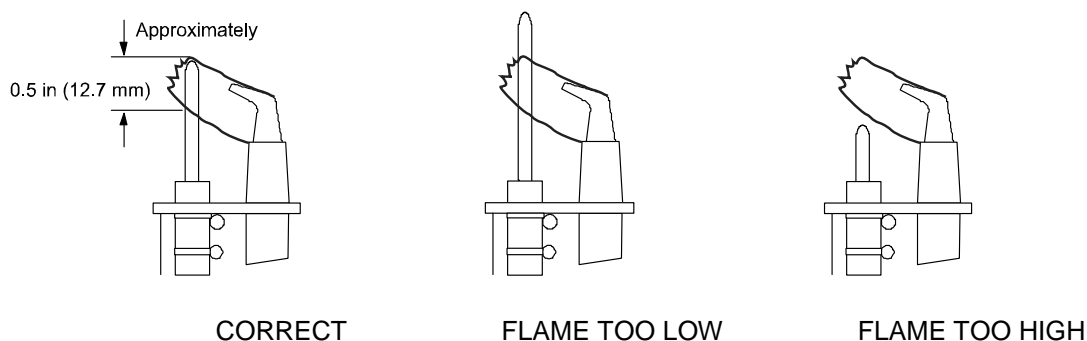

Figure 1: Proper Flame Sensor Position
- Weak flame, flame not in contact with the spark electrode of flame sensor. Check that flame sensor tip is in the flame. For proper sensing, the rod tip must be $\frac{3}{8}$ " (10mm) to $\frac{1}{2}$ " (13mm) in the flame. See figure 1.